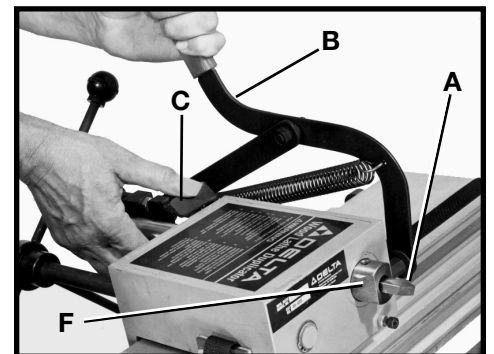

Fig. 68
The tool advancement arm (F) Fig. 68 automatically regulates the depth of cut of the cutting tool (A).
1. To increase the depth of cut, pull back on handle (B) Fig. 68 and push engagement lever (C) forward. Each stop on the engagement lever (C) will increase the depth of cut by 1/8" increments to one full inch. **IMPORTANT:** Always pull back on handle (B) before advancing tool engagement lever (C).